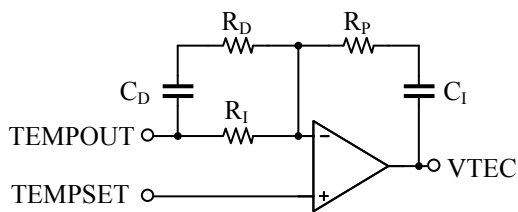

Figure 8 Compensation network
4. Tune the compensation network. The purpose for this step is to match the controller compensation network with the thermal load characteristics thus that the response time and temperature tracking error are minimized. Adjust the potentiometer W1 to change the set-point temperature TEMPSET just a small amount, simulating a step function. At the same time, connect an oscilloscope at the VTEC test pin (on the left side of the evaluation board), set it to a scrolling mode (0.2 Second/Division or slower) and monitor the waveform of VTEC as TEMPSET is fed by a step function signal. The circuit in the compensation network is shown in Figure 8 below.